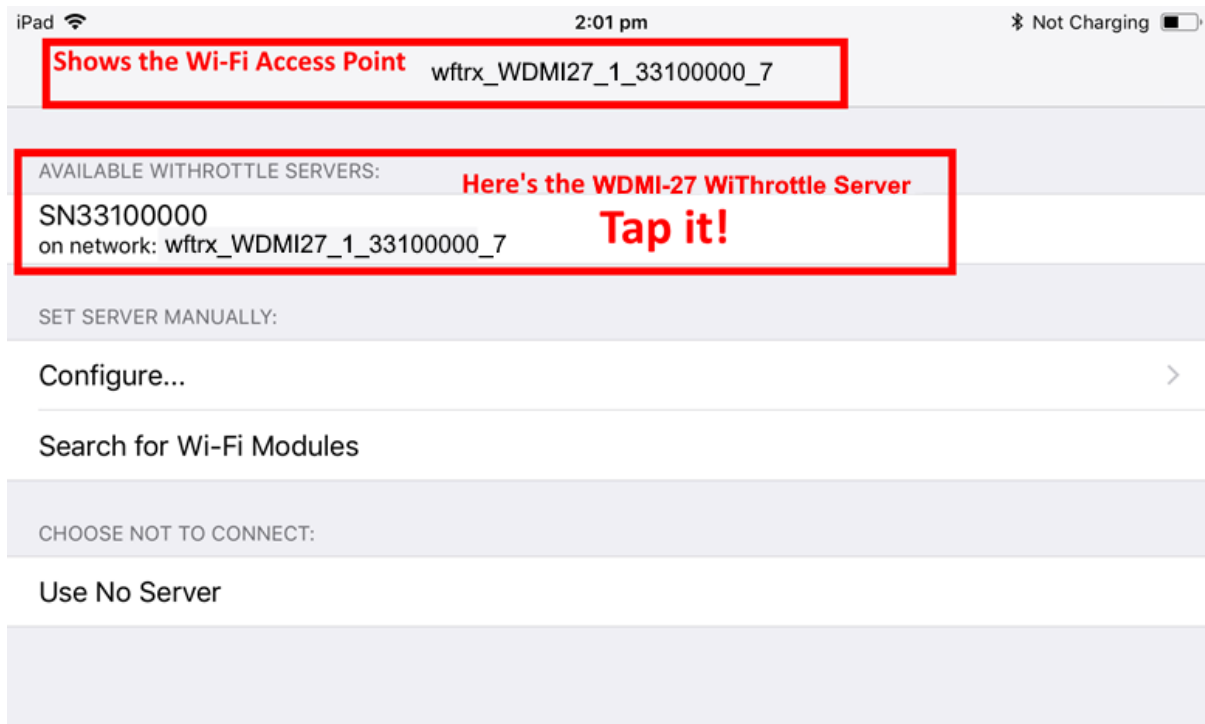

Figure 6 The WiThrottle app Server screen
- (7) Go to the Home Screen and find and open the WiThrottle app by tapping its icon:
- (8) You should see the connection screen headed by “wftrx_WDMI27_1_XXXXXXX_7”. The WDMI-27 is a WiThrottle Server and it should appear in the “Available WiThrottle Servers” section, identified by its serial number. If it is visible, tap it as Figure 6. You may need to wait a few moments.